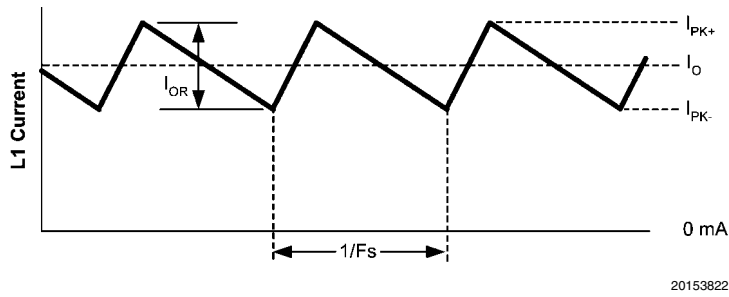

FIGURE 5. Inductor Current
**RCL:** Since it is obvious that the lower peak of the inductor current waveform does not exceed 1.0A at maximum load current (see Figure 5), it is not necessary to increase the current limit threshold. Therefore  $R_{CL}$  is not needed for this exercise. For applications where the lower peak exceeds 1.0A, see the section entitled Increasing The Current Limit Threshold.
**C1:** This capacitor limits the ripple voltage at  $V_{IN}$  resulting from the source impedance of the supply feeding this circuit, and the on/off nature of the switch current into  $V_{IN}$ . At maximum load current, when the buck switch turns on, the current into  $V_{IN}$  steps up from zero to the lower peak of the inductor current waveform ( $I_{PK-}$  in Figure 5), ramps up to the peak val-
The current limit threshold is nominally 1.25A, with a minimum guaranteed value of 1.0A. If, at maximum load current, the lower peak of the inductor current (IPK- in Figure 5) exceeds 1.0A, resistor RCL must be added between SGND and ISEN to increase the current limit threshold to equal or exceed that lower peak current. This resistor diverts some of the recirculating current from the internal sense resistor so that a higher current level is needed to switch the internal current limit comparator. IPK- is calculated from: